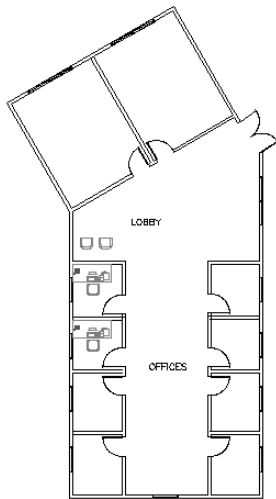

Figure 18-30: The office plan with added chairs and office furniture.
12. Choose Zoom Previous from the Standard toolbar. Save your drawing. It should look like Figure 18-30.